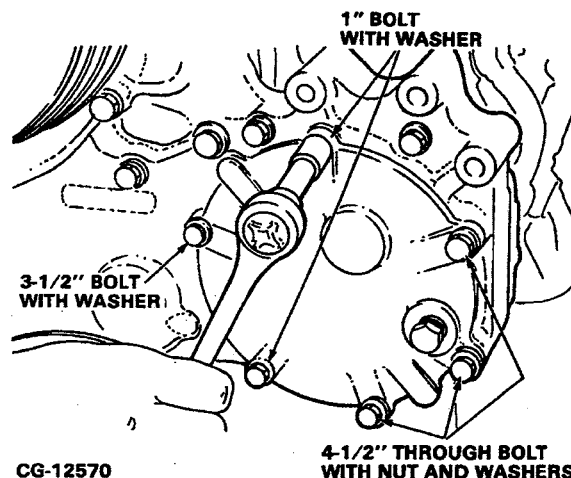

Figure 11.110. Remove Injection Pump Drive Gear Access Cover Bolts (Current Production Cover Shown)
**NOTE:** 1988 and later model year engines incorporate a simplified injection pump access cover (Refer to Figure 11.110.) as part of a revised accessory drive for 1988. Mounting hardware for the 1987 and 1988 access cover is different while the gasket is the same.